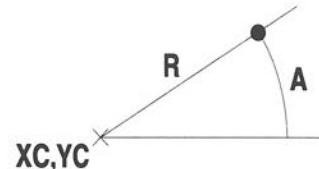

Figure E-60
This command calculates the X Y coordinates for a point that is specified using polar coordinates from a specified pole location. Figure E-60 shows how the polar coordinates are defined.
- Angle** This is the angle of rotation from the X axis. This is shown in Figure E-60 as the angle marked **A**.